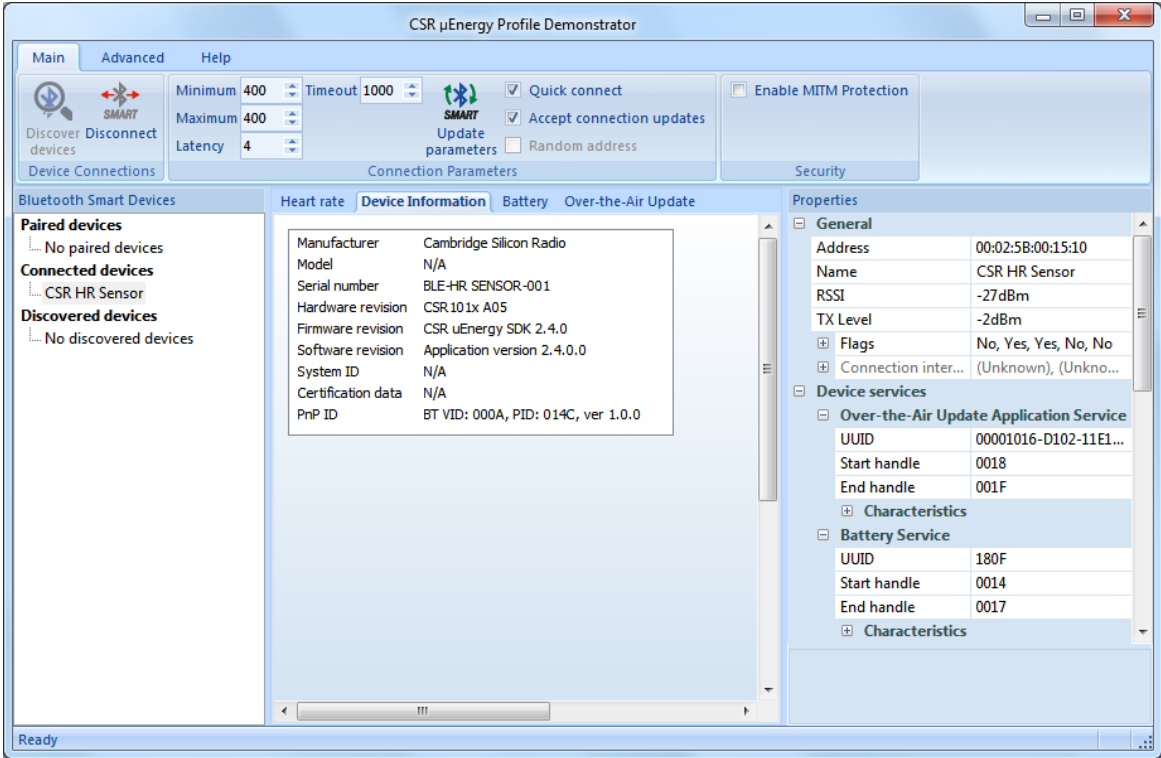

Figure 2.9: Device Information Service Tab
- The **Device Information** tab, see Figure 2.9, displays the Device Information characteristics of the application.